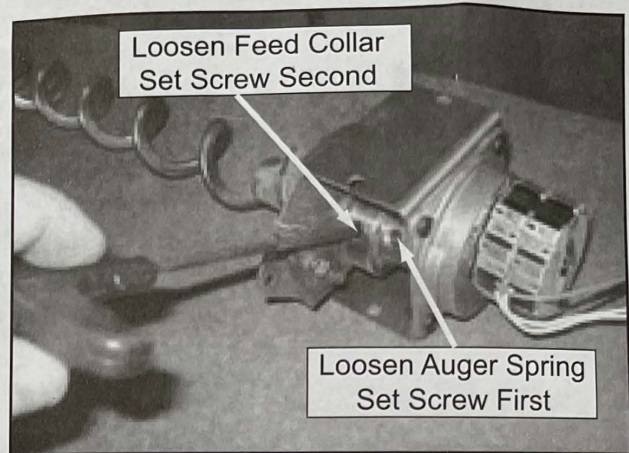

Figure 10
1. Using a Phillips head screw driver loosen the auger spring set screw first and then the feed collar set screw and remove the auger spring. **Figure 10.**